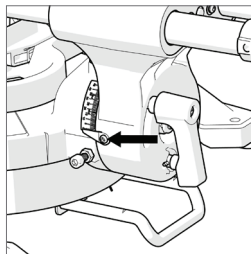

Fig. 15
- Loosen the Bevel Pointer screw using a #2 Phillips screwdriver. **(Fig. 15)**